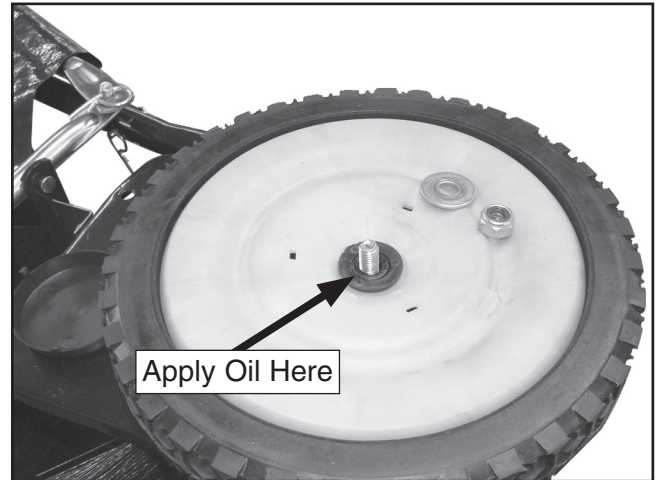

Figure 22. Wheel nut removal.
3. Apply a few drops of light oil to the wheel bushings, as shown in **Figure 22**, and spin the wheel to distribute the oil. Replace the washer, wheel nut, and the dust cap. Flip the sweeper on to the other side and repeat **Steps 1-3** for the other bushings.